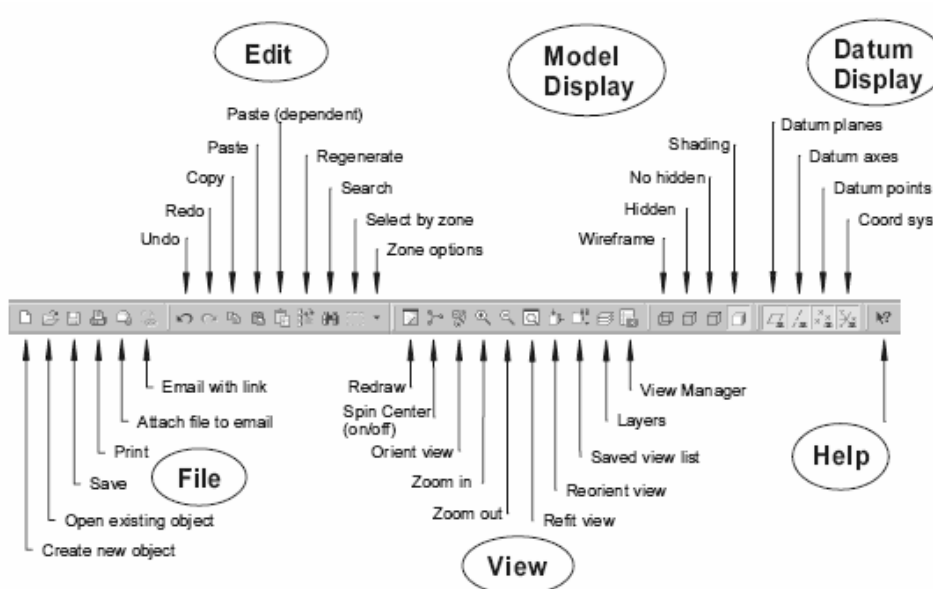

Figure 3 Standard top toolchest
- Use of saved views (fig. 3 saved view list in the top tool chest): a saved view is an orientation in space and a zoom scale. Saved views are very useful in larger designs to shift from left to right in the design without having to zoom and pan several times. Views can be made and saved in the VIEW>View Manager>Orientation.
- By reorienting the view (fig 3 Reorient view in the top tool chest)
- With the view manager (fig 3 View manager in the top tool chest or View>View manager)